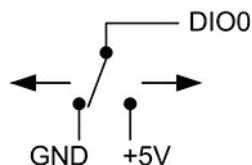

Figure 4. Schematic showing switch detection by digital channel DIO0
When you configure the digital bits for input, you can use the OM-NET-TC digital I/O terminals to detect the state of any TTL-level input. Refer to the schematic shown in Figure 4. If you set the switch to the +5V input, DIO0 reads *TRUE* (1). If you move the switch to GND, DIO0 reads *FALSE* (0).